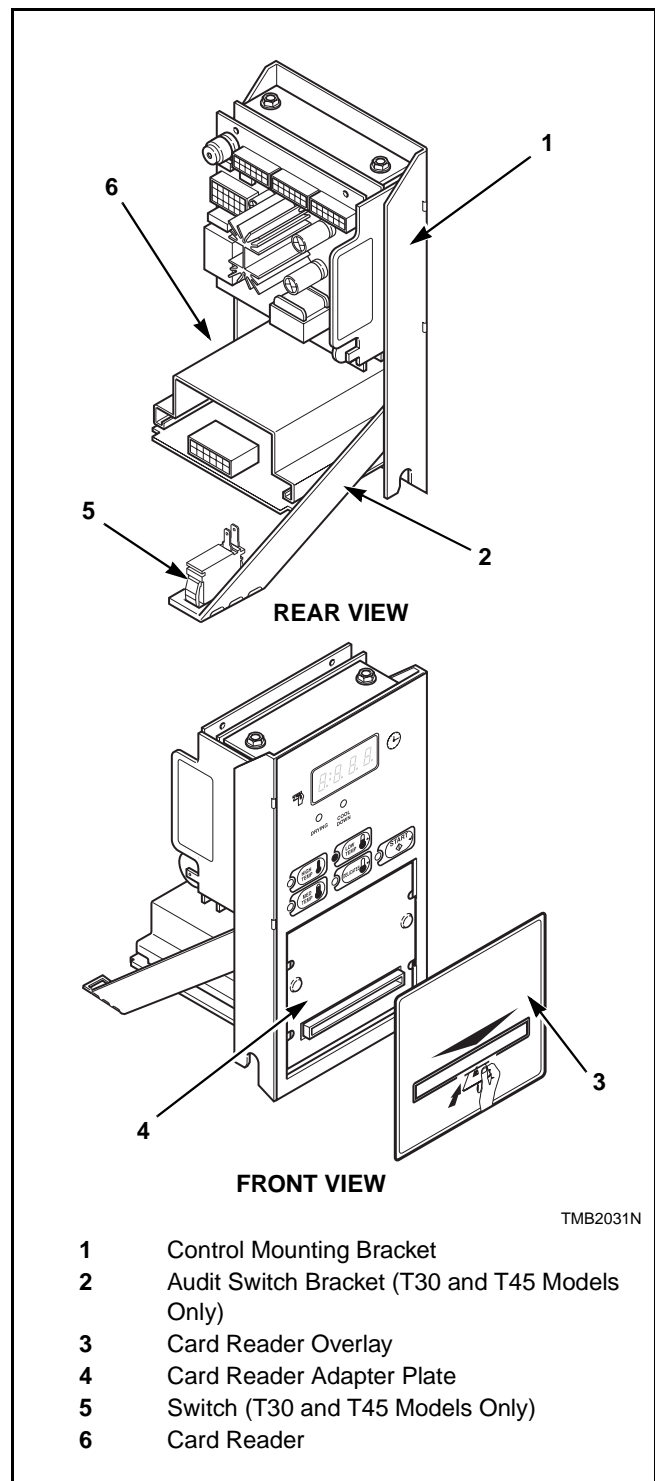

Figure 4
- Place 44087901 Card Reader Adapter Plate onto control mounting bracket, place card reader onto card reader adapter plate as per manufacturer's instructions. T30 and T45 Models Only – place 70183901 Audit Switch Bracket onto card reader adapter plate. Install four nuts from Step 3 onto studs. Refer to *Figure 4*.
- T30 and T45 Models Only – remove switch from original bracket by pressing tabs in, install into audit switch bracket. Refer to *Figure 4*.
- Install 70334201 or 70334301 Card Reader Overlay by peeling off paper and applying to front of card reader adapter plate. Refer to *Figure 4*.